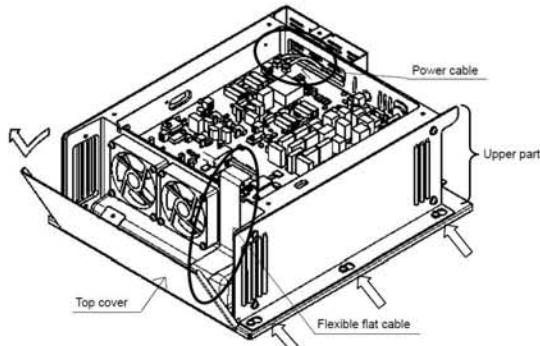

図 2 [Fig.2]
- 4) 筐体両側の 6 つのビスを緩め、筐体上部を取り外します。(図 2)
Loosen the screws (six places) fixing the both sides of chassis, and then remove the upper part. [Fig.2]